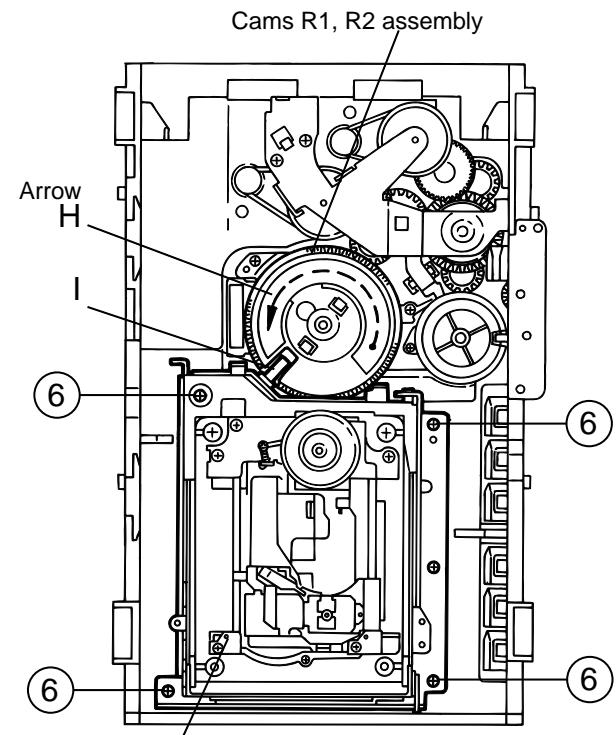

Fig.10
## ■ Removing the DVD mechanism assembly (See Fig.10)
1. While turning the cams R1 and R2 assembly in the arrow direction "H" . align the shaft "I" of the DVD mechanism assembly to the position shown in Fig.10.